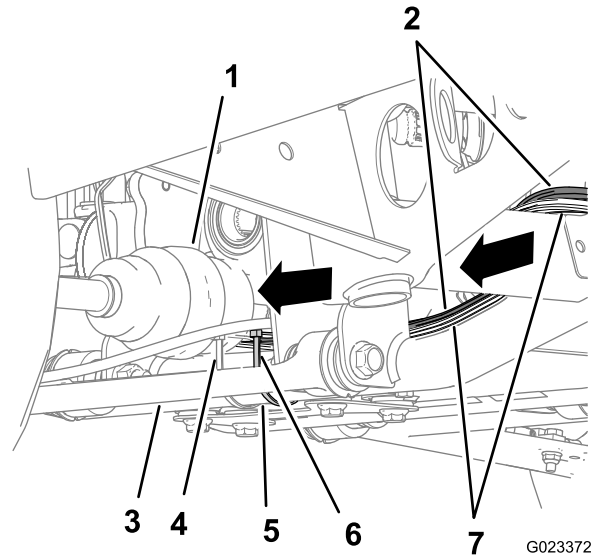
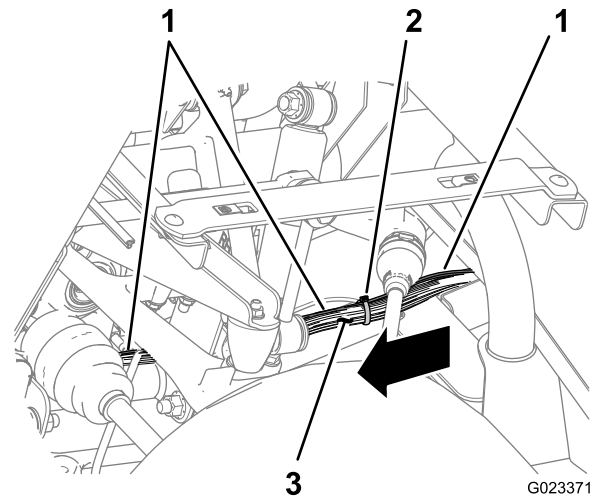
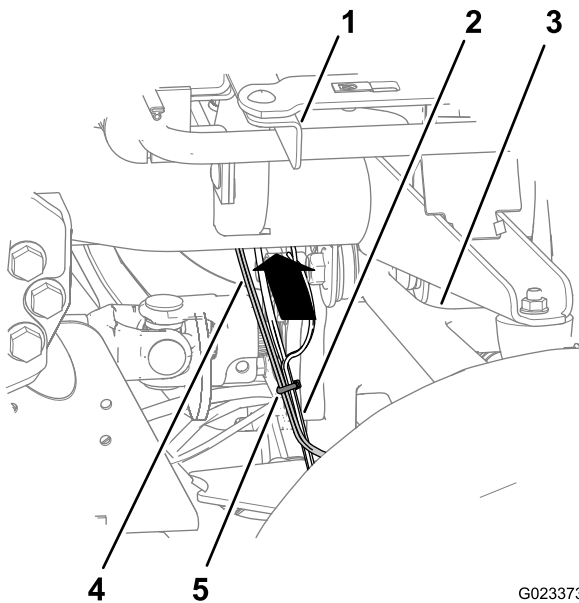

Figure 26
Figure 27
Figure 28
5. Continue routing the wiring harness of the kit along the lower-frame tube and then up behind the upper-control arm and the rear-support channel for the seat (Figure 26, Figure 27, and Figure 28).
- Secure the wiring harness of the kit to the rear-main harness with cable ties at the 2 locations shown in Figure 27 and Figure 28.
- Secure the wiring harness of the kit to the lower frame tube with a cable tie at the location shown in Figure 26.